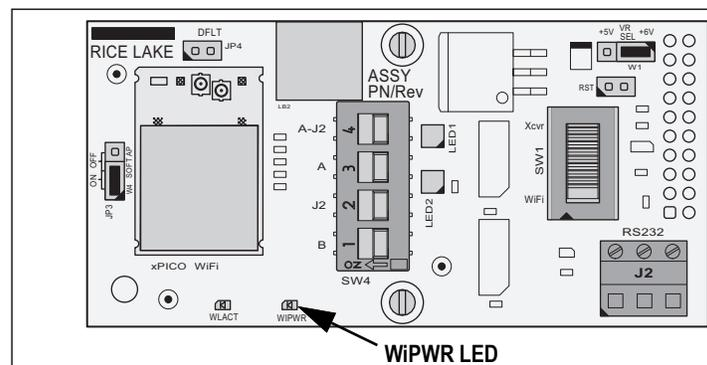

Figure 6. Wi-Fi LED Locations
1. Power on the indicator and wait for the WiPWR LED to light solid. See Figure 6 for the LED's location.